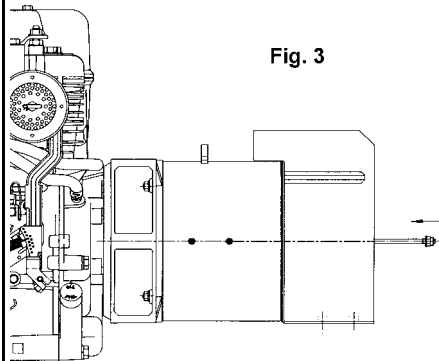

Fig. 3
-) insert the central bolt into its housing and screw the nut (figure 3)
(Abb. 3 Seite 35)